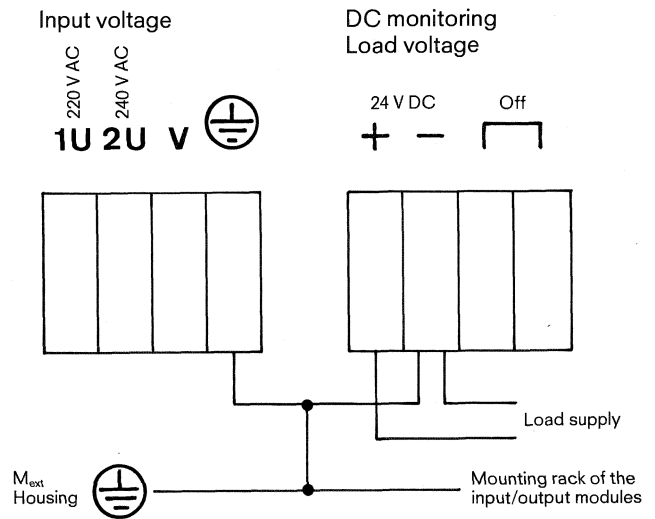

Fig. 11 Mains connections of the power supply unit
- The M connection from the load power supply to the  $M_{ext}$  terminal should be made via a short connecting wire (see Fig. 11).